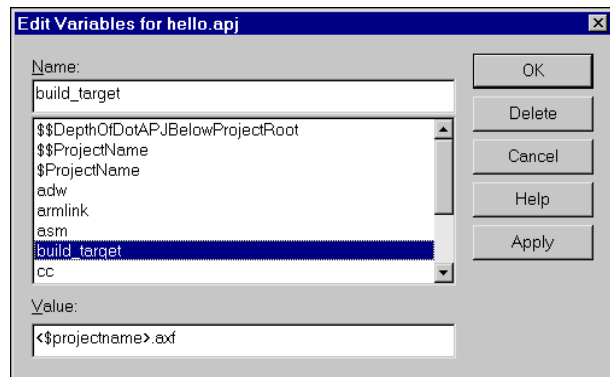

Figure 2-21 Edit Paths dialog
1. Select **Edit Paths** from the **Project** menu. The Edit Paths dialog is displayed (Figure 2-21).